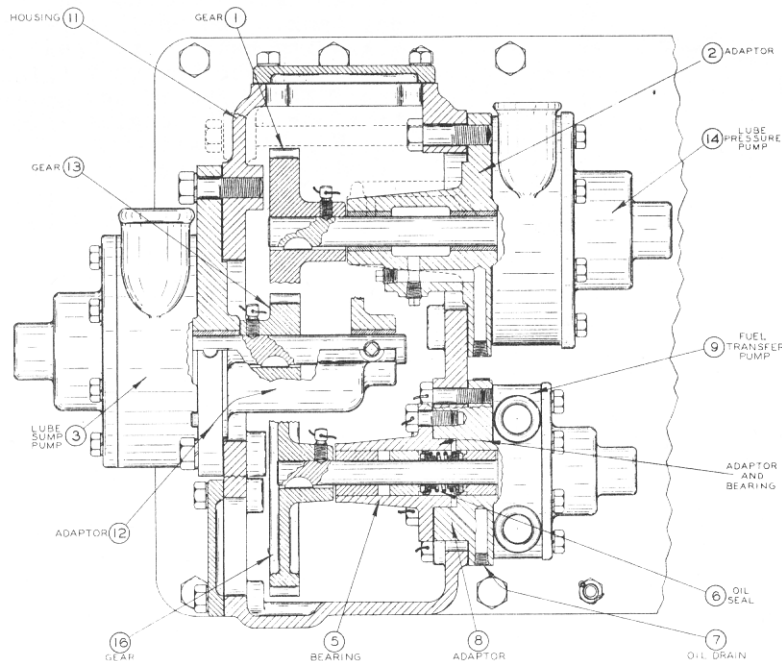

FIG. N-1
The description will not be repeated here, nor the instructions regarding direction of rotation, which apply equally well to the transfer pump. (On direct reversible marine engines the rotary gear type fuel transfer pump is reversible. Consequently fuel is delivered irrespective of direction of rotation.) The fuel transfer pump drive is shown on Fig. N-1. Transfer pump (9) is mounted in adaptor (6) which is bolted and doweled to the housing. If the adapter is replaced it must be positioned for .004" to .005" gear backlash before doweled. A cylindrical fit between pump and adaptor permits replacement of the pump without disturbing the drive gear setting. The pump shaft and rotor is carried in three bronze bushings, one in the adaptor and two in bearing (5)